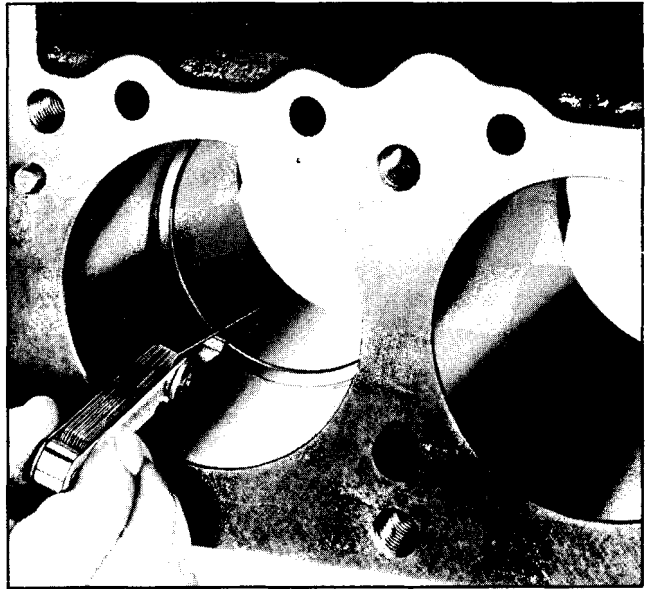

Fig. 6-163 Checking Ring Gap
3. Measure gap between ends of ring with feeler gauge (Fig. 6-163). Gaps should be as follows: